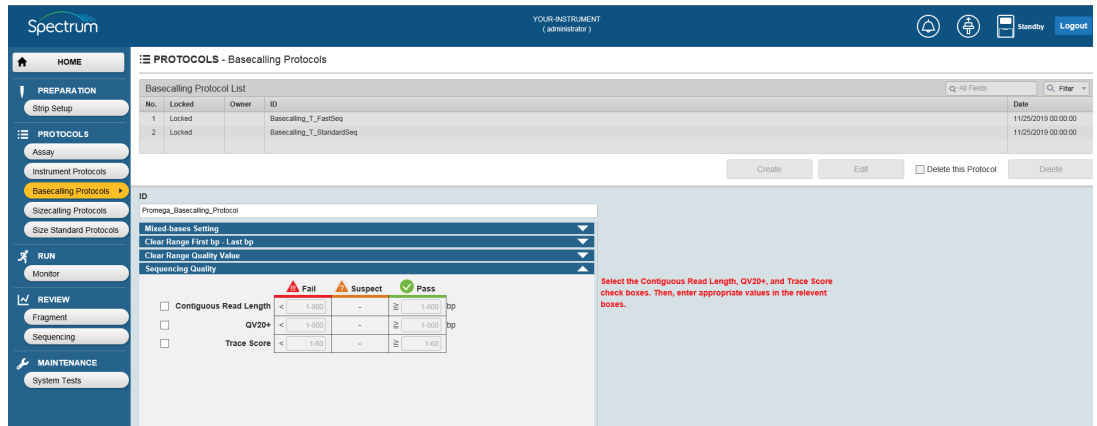

Figure 39. 'Sequencing Quality' pull-down screen.
6. Select the **Sequencing Quality** pull-down menu and check the boxes to the left of CRL, QV20+ and Trace Score to select which parameters to use for assessing sequencing quality. After checking these boxes, set the minimum passing and maximum failing CRL, QV20+ and Trace Score values (Figure 39).